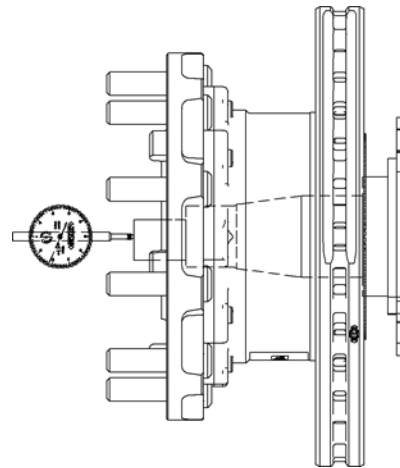

Figure 9 – Wheel End Play Measurement
3. Place the tip of the dial indicator on the center of the steering knuckle spindle. Set the dial indicator on zero (**Figure 9**).